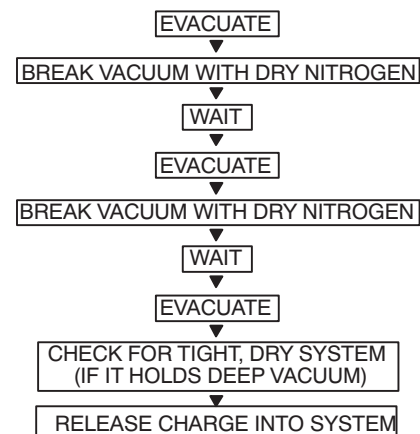

Fig. 19 — Triple Evacuation Method
Refer to Fig. 19 and proceed as follows:
5. Repeat this procedure as indicated in Fig. 19. The system will then be free of any contaminants and water vapor.